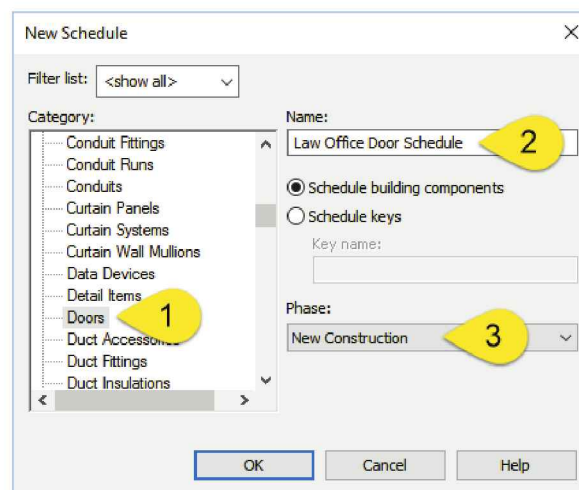

FIGURE 12-2.1 New Schedule dialog
6. Click **OK** to create the schedule (Figure 12-2.1).